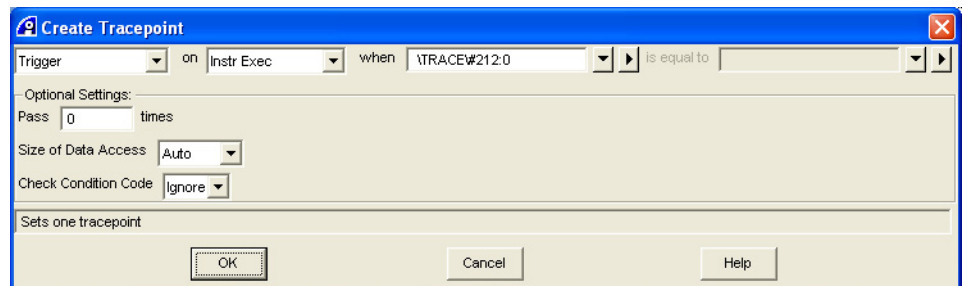

Figure 7-1 Create Tracepoint dialog box
2. Select **Create Tracepoint...** from the context menu to display the Create Tracepoint dialog box. Figure 7-1 shows an example: